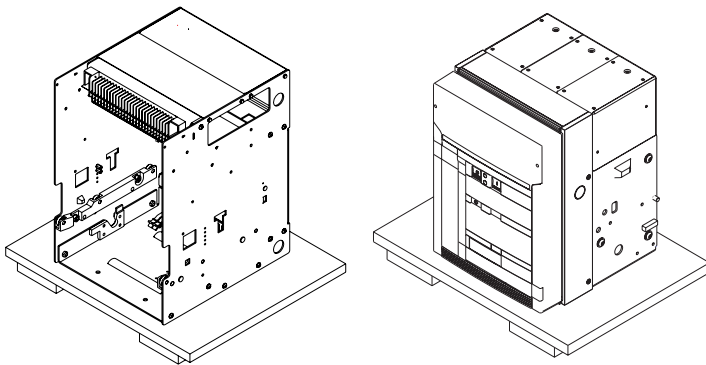

Fig. 5
- Position the circuit-breaker and any fixed part on a horizontal surface, not in direct contact with the floor, but on a suitable support surface (Fig. 5)